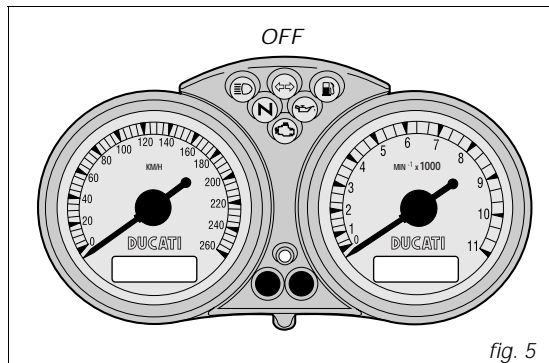
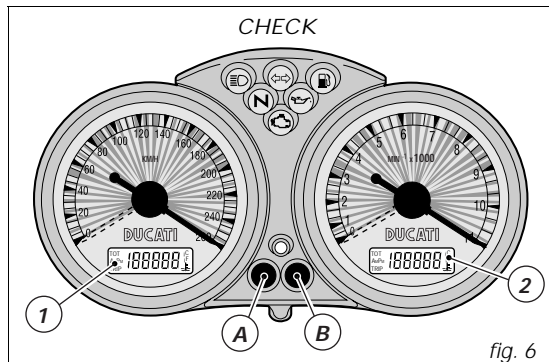

fig. 5
fig. 6
When turning the key from **OFF** to **ON (Key-ON)** the instrument panel carries out a Check of the whole instruments: indexes, displays and pilot lights (see fig. 5 and fig. 6).
Turn the key to ON and press (A, fig. 6) to display trip meter and odometer alternatively.
Keep (A, fig. 6) pressed for more than 2 seconds. When the **TRIP** function is enabled (trip meter), display (LCD 1) will reset.
Turn the key to ON and press (B, fig. 6) to display clock and oil temperature.
Press (B, fig. 6) for at least 2 seconds.
Press (A, fig. 6) to set AM/PM. Press (A, fig. 6) to set hours. Use button (A) to change hour value. Press (B) to set minutes.
Turn the key to ON and press (B, fig. 6) within 5 seconds to change instrument panel lighting power.